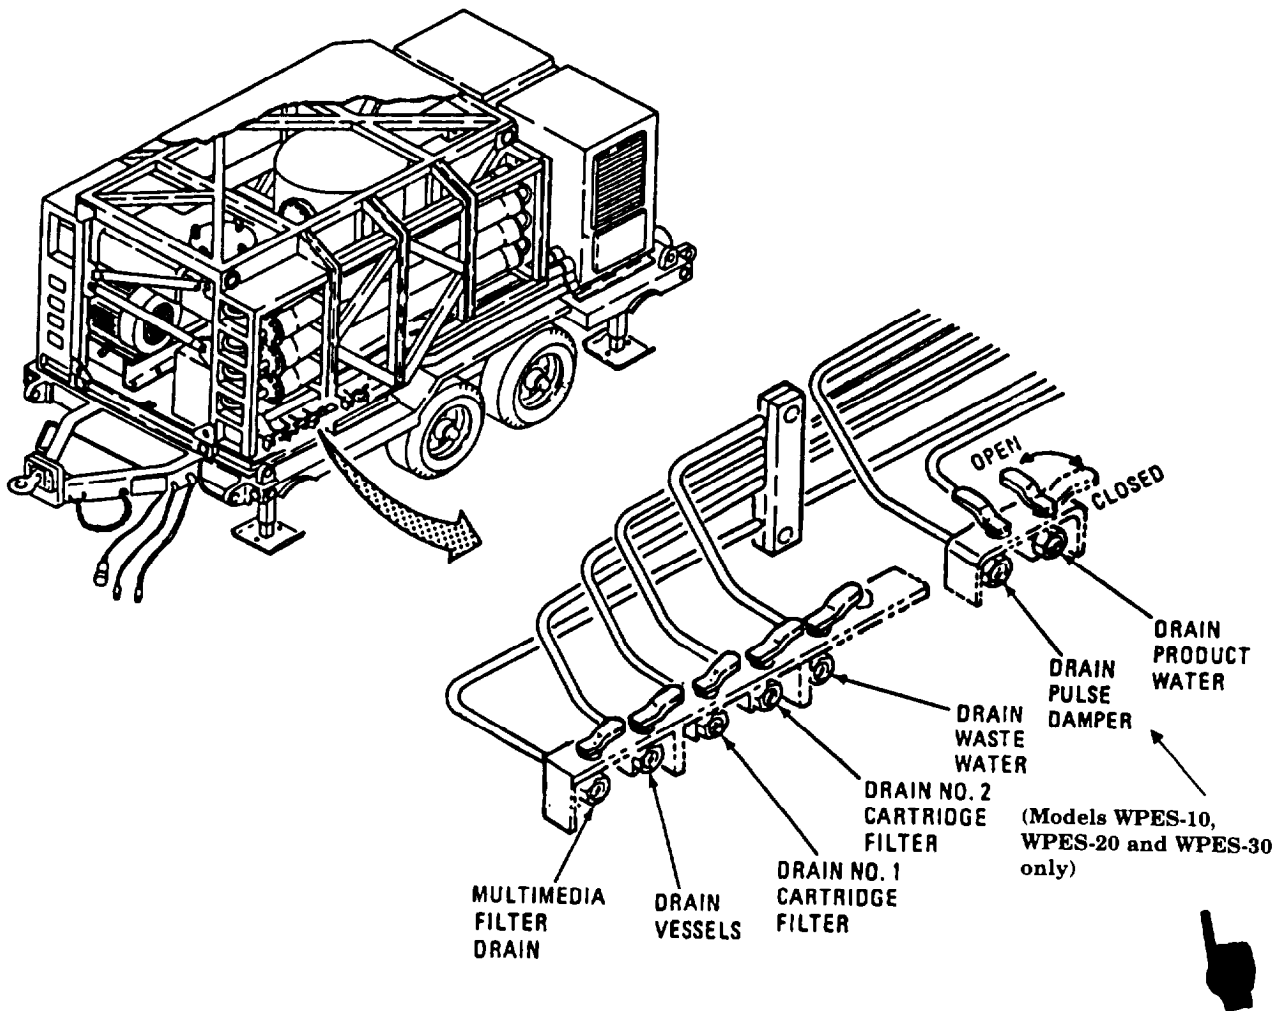

Figure 2-45. Drain Valves
- a. Close Drain Valves. Refer to figure 2-45. Close all drain valves (seven valves on Models WPES-10, WPES-20 and WPES-30; six valves on Models H-9518-1, H-9518-2, and H-9518-3). Drain valves are normally closed during operation.